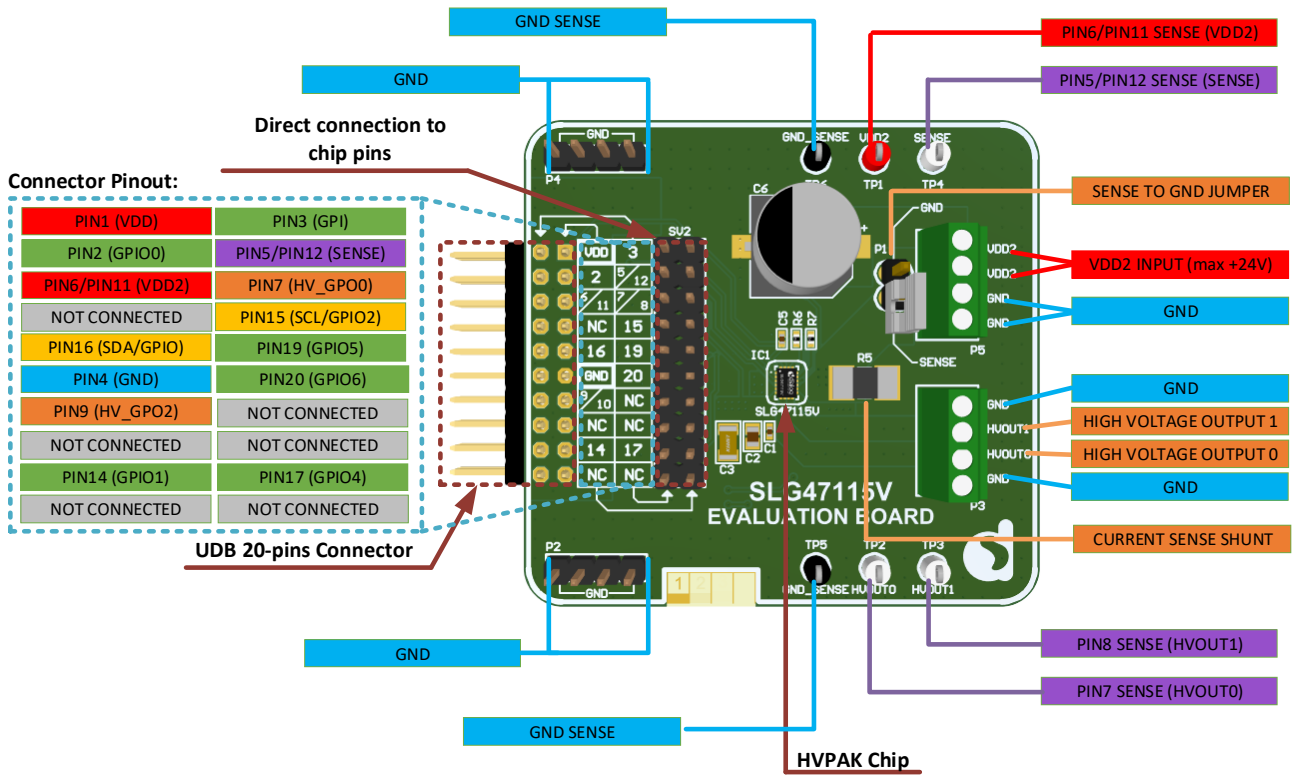

Figure 4. SLG47115V Evaluation Board, Top View
- Figure 4. SLG47115V Evaluation Board, Top View8